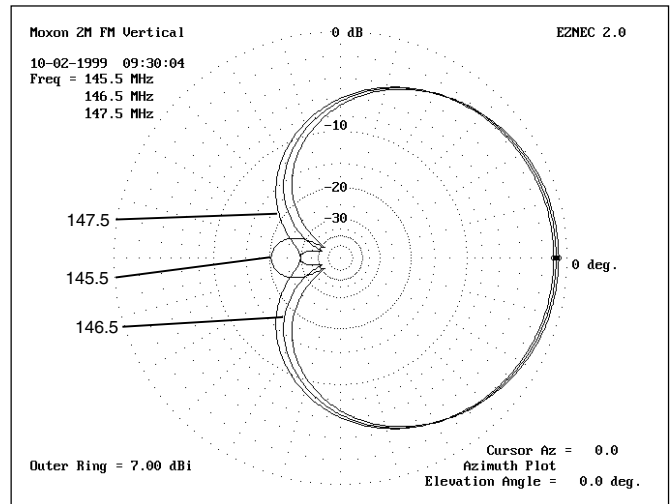

Figure 3—The predicted radiation pattern of the Moxon beam.
- A smooth, wide front lobe (see Figure 3) with modest, but useful gain (of about 6 dBi in free space) and none of the sidelobe notches associated with most Yagi and quad beams of three or more elements.